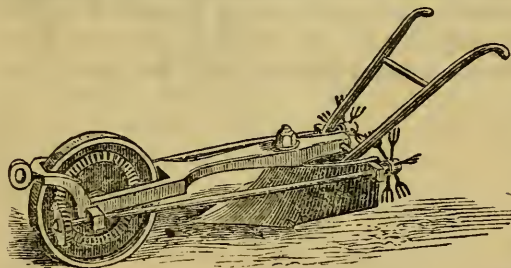

Fig. 151—WETHERELL'S HORSE-HOE.
**WETHERELL'S HORSE HOE.**—This curious implement (fig. 151)